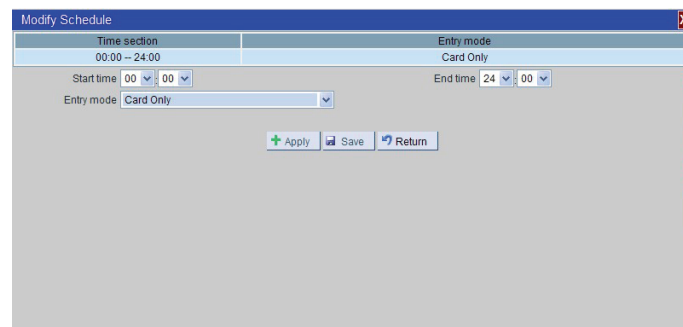

Figure 12-9 Set time period and authentication mode
- 2) Click the time period of “Date Setting,” a dialog box will pop up, in which the time period and the door entry/exit authentication authority can be set; see Figure 12-9.